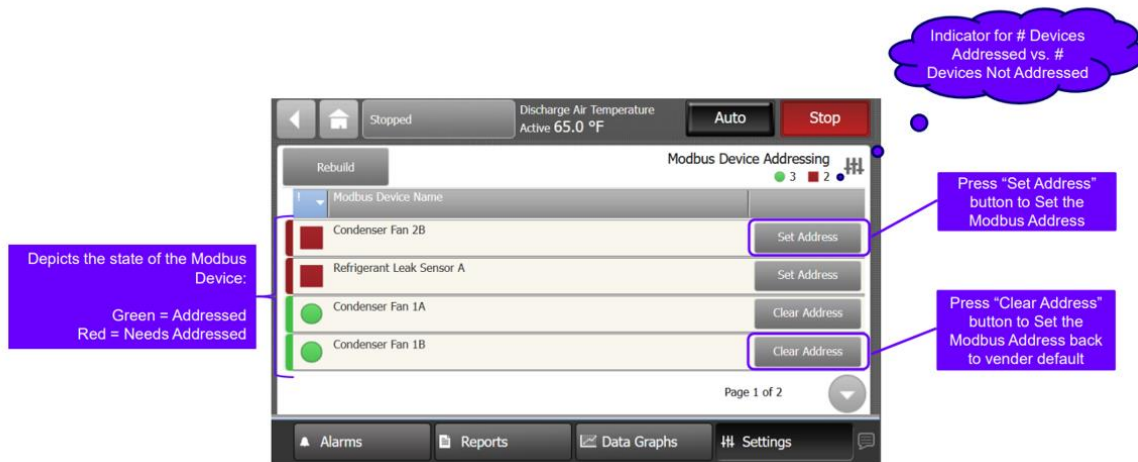

Figure 6:
- 2.5. Select the Device Name and click the 'Set/Clear Address' button beside it (figure 6).